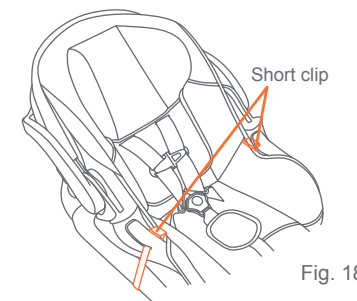

Fig. 18c
- When the infant car seat is locked firmly into place, strap the single Short Clip over the infant car seat through the seat belt slot on the infant car seat (Fig. 18c). **NOTE:** It is very important that the Short Clip is always tightly fastened around the infant car seat.